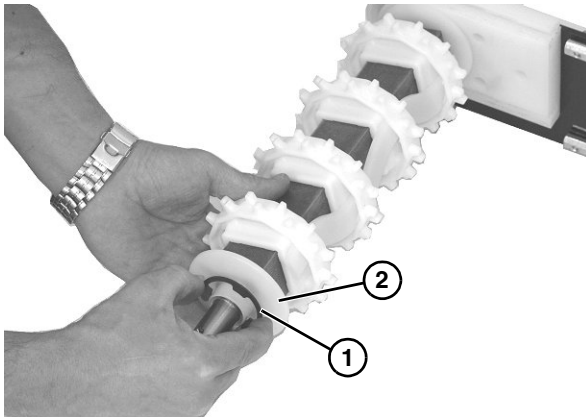

Figure 30
9. Remove retaining clip (**Figure 30, item 1**) and flanged puck (**Figure 30, item 2**) from drive spindle.